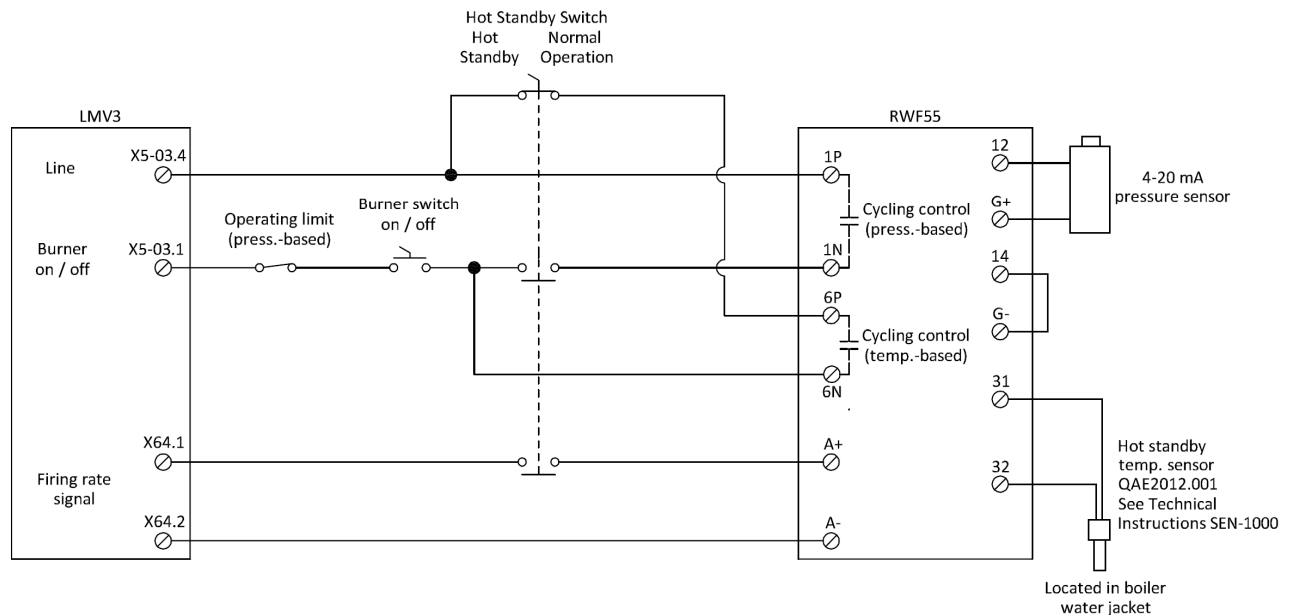

Figure 2: LMV3 Hot Standby Wiring
1. Wire the RWF55 to the LMV3 as shown in Figure 2.